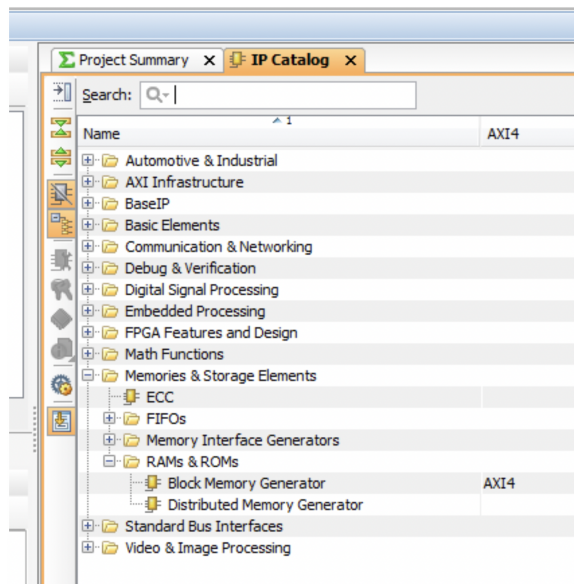

Figure 4: IP Catalog
- Select the category **Memories & Storage Elements** and sub-category **RAMs & ROMs**, as shown in Fig. 4.